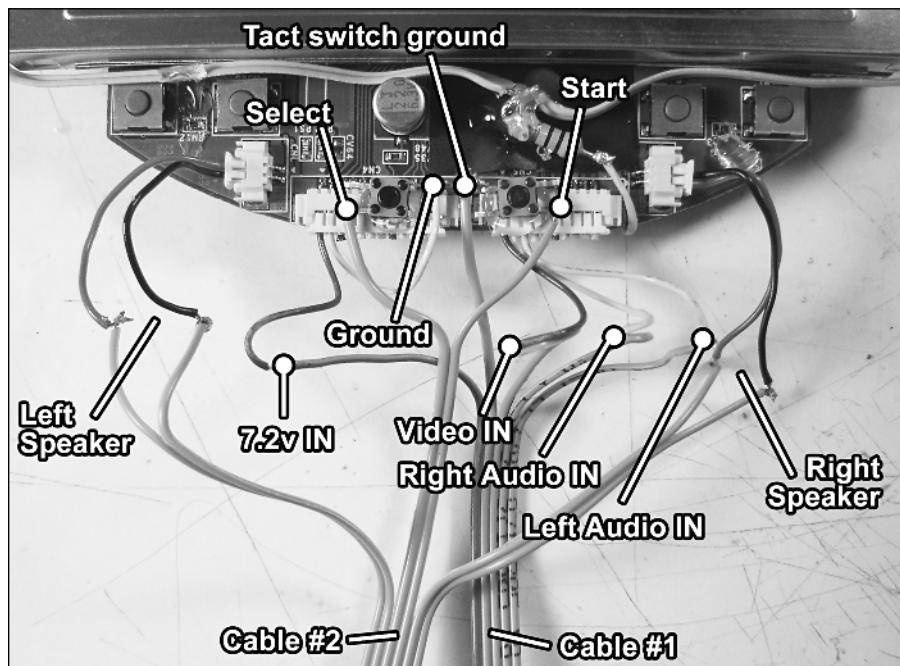

FIGURE 13-6: Both ribbon cables attached to the PSOne screen.
6. Take your five-strand of ribbon cable and connect it to *+7.2 volts IN*, *tact switch ground*, *Video IN*, *Right audio IN*, and *left audio IN*, as seen in Figure 13-6. This ribbon cable will be referred to as *Screen Cable 1*. Take the remaining wire on the left plug (the second one from the left, ground) and connect it to *tact switch ground*.
10. The resulting wiring job should look like Figure 13-6. After verifying this, put small pieces of electric tape on all the exposed wire connections in order to prevent short circuits.